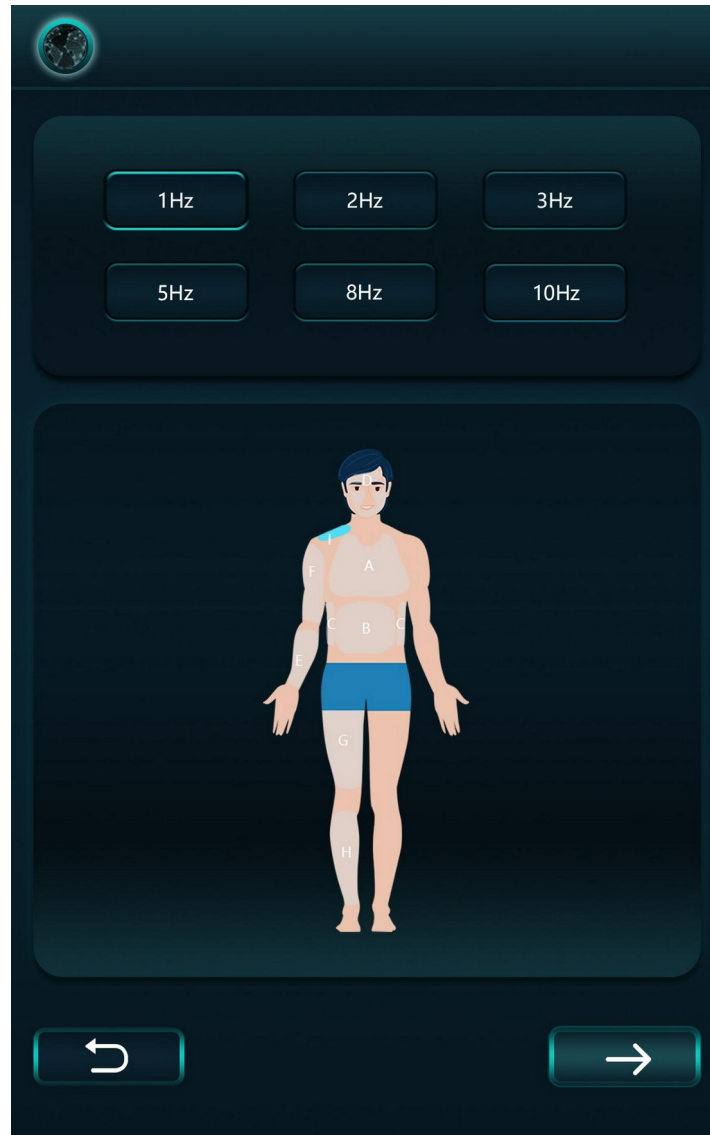

Figure 7.3 SHR mode — treatment-area and skin-type selection.
Please follow the pre-programmed suggested parameters (protocol) by selecting SHR mode and Stack mode, step by step. SHR mode is applied to treatment areas such as the arms, legs, chest, and back (Ref. Figure 7.3). After selecting treatment area “B,” the recommended data will be shown on the screen (Ref. Figure 7.4). The total grid area for “B-Chest” is 8 grids. The recommended energy starts from $5.2 \text{ J}/\text{cm}^2$; 7 kJ of energy is needed for each grid over an area of $10 \text{ (W)} \times 20 \text{ (L)} \text{ cm}$ (200 cm^2) within a 1-minute-10-second period to follow the treatment procedure. The total energy should reach 56 kJ as the recommended treatment dose for area “A.” Stack mode is applied to treatment areas such as the chin, cheek, upper lip, sideburns, bikini line, and fingers and toes (Ref. Figure 7.5). After selecting treatment area “B,” the recommended data will be shown on the screen (Ref. Figure 7.6). The total grid area for “B-Cheek” is 1 grid. The device needs 8 kJ of energy for each grid over an area of $10 \text{ (W)} \times 20 \text{ (L)} \text{ cm}$ (200 cm^2) within a 75-second period to follow the treatment procedure. The total energy should reach 8 kJ as the recommended treatment dose for area “B.” Evaluate the treatment area for any side effects. The treated area may become pink and a little puffy; this is normal. The reaction subsides quickly, and within a day or so the areas return to normal. During treatment, the parameters can be adjusted to meet your requirements. The number of treatments needed is 4–6 sessions, and the treatment interval is 4–6 weeks.